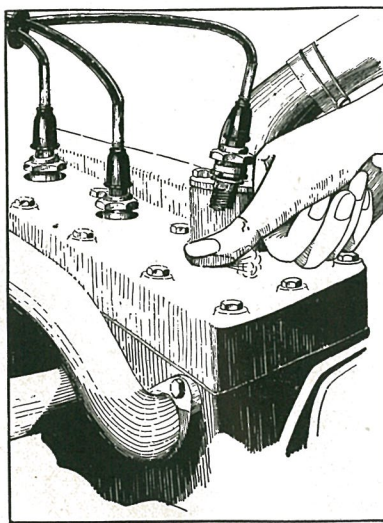

Fig. 86. Determining Dead Center
1. Remove spark plug from No. 1 cylinder, as shown in Fig. 86, and crank engine